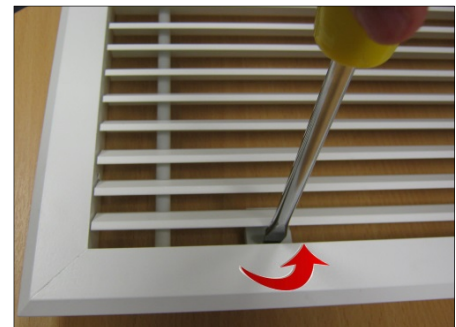

Fig 6
Step 1 Open the hinged inlet grille using a flat bladed screwdriver to release the quarter turn fasteners (see Fig 6). There are two fasteners on the C1000R unit and three fasteners on C1500R and C2000R units. Before lifting the grille frame into position, remove four (six on C2000R) M6 bolts fitted on the inside edge of air curtain.